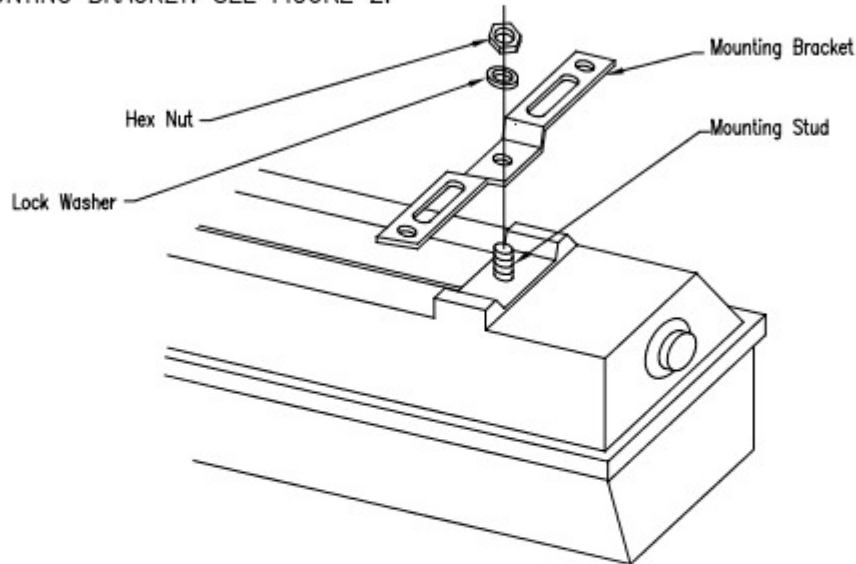

Figure 1
2. POSITION MOUNTING BRACKET OVER MOUNTING STUD OF FIXTURE. SEE FIGURE 1.
3. PLACE LOCK WASHER OVER MOUNTING BRACKET. SEE FIGURE 1
4. SECURE MOUNTING BRACKET WITH HEX NUT. SEE FIGURE 1.